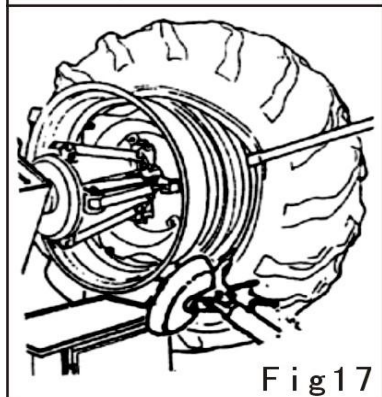

Fig 17
- 8) Move the tool bracket to the non-operation position and lower the shaft. The tire will contact with the support plane④. Move the wheel support platform outwards a little for leaving the space to take out the tube.
- 13) At the right side of the sharp nose tool, insert the rod in between the rim of the wheel and the rim of the tire. (see Fig17)